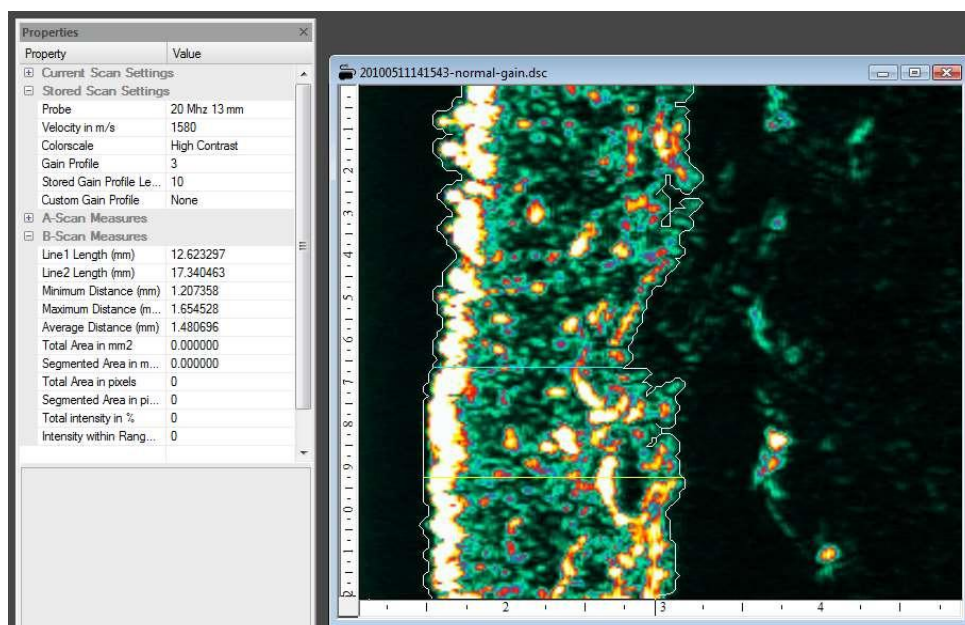

Fig. 27. Edge detection.
- Repeat the same procedure for borderline 2. After both lines are detected, the Property field will update to show the average, max. and min. distance (skin thickness). Max. and min. distance between *line 1* and *2* will be shown as a yellow and blue horizontal line in the image, see fig. 27.